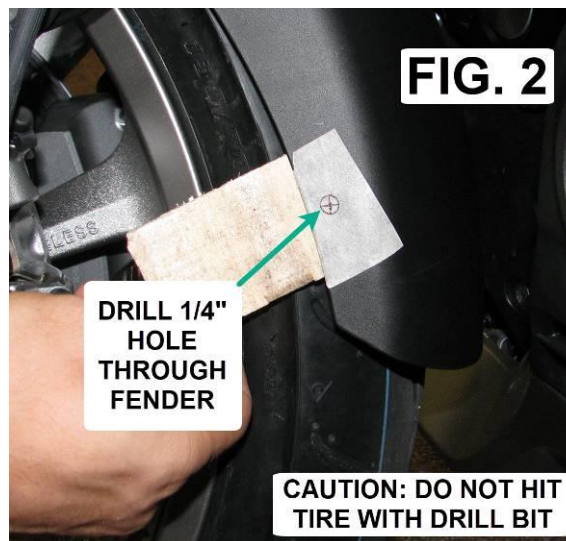

FIG. 2
3. HOLD A SMALL PIECE OF WOOD OR PLASTIC INSIDE THE FENDER (FIG. 2) AND DRILL A 1/4" HOLE THROUGH THE FENDER. (BE SURE NOT TO HIT THE TIRE WITH THE DRILL BIT.)